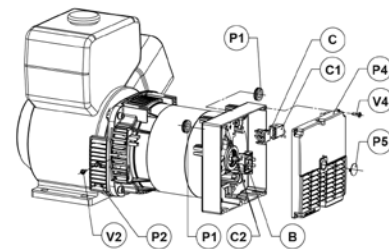

Fig. 1C
- 5 Connect the alternator to the electric control panel P4 by joining the C and C1 connectors (Fig 1C); fasten the connector unit to the shield by fitting it into the C2 housing provided.